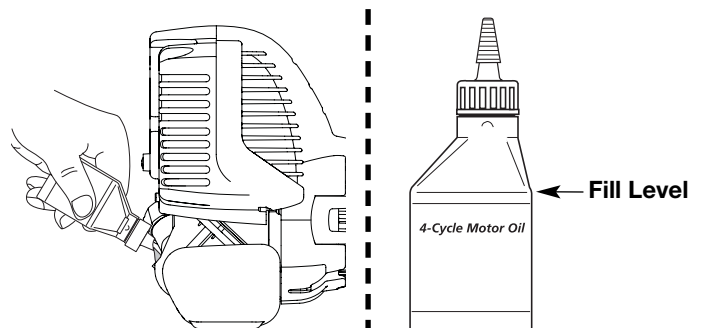

Fig. 27
**NOTE:** Use the bottle and spout saved from initial use to measure the correct amount of oil. The top of the label on the bottle measures approximately 3.4 ounces (100 ml) (Fig. 27). Check the level with the dipstick. If the level is low, add a small amount of oil and recheck. Do not overfill (Fig. 27).